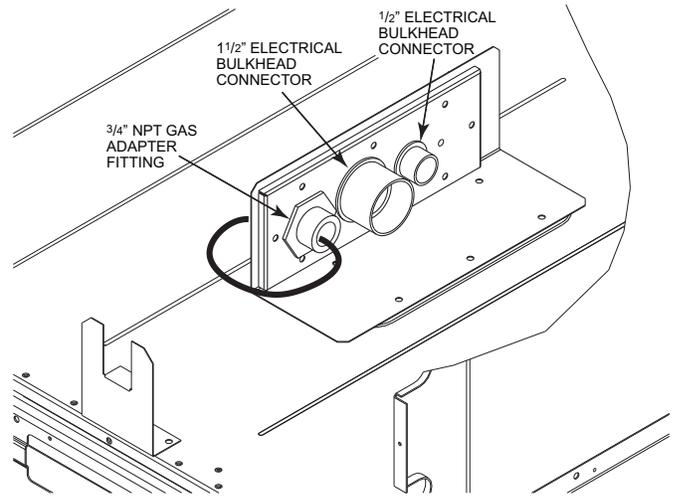

Fig. 20 — Thru-the-Base Option, Shipping Position
This service connection kit consists of a 3/4-in. NPT gas adapter fitting (stainless steel), a 1/2-in. electrical bulkhead connector and a 1 1/2-in. electrical bulkhead connector, connected to an “L” bracket covering the embossed (raised) section of the unit basepan in the condenser section. See Fig. 20.
1. Remove the “L” bracket assembly from the unit (see Fig. 20).